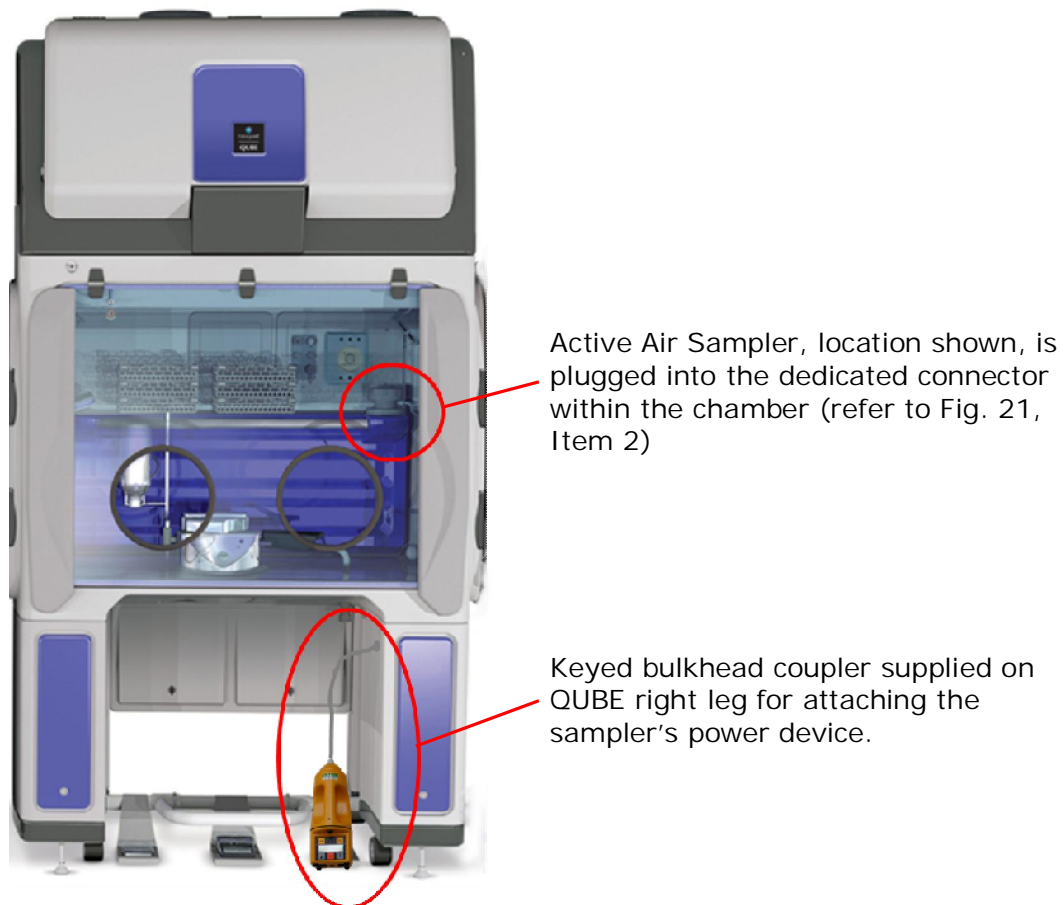
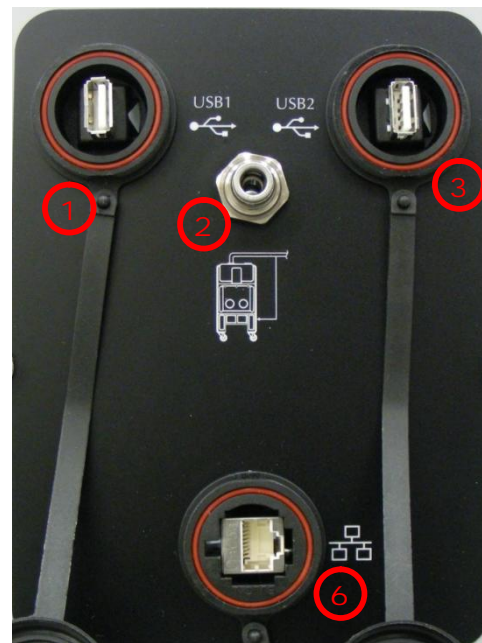

Figure 12: Connecting Active Air Sampler
Figure 20: Electrical connection plate (QEXT)
- An integral connector inside the chamber can be used to connect to an Active Air Sampler (see Fig. 21, Item 2), and a coupler is provided (see Fig. 12) on the QUBE’s right leg to enable connection to the air sampler’s power device. The Active Air Sampler and power device and settle plates are not supplied by Bioquell.
An integral connector inside the chamber can be used to connect to an Active Air Sampler (see Fig. 20, Item 2), and a coupler is provided (see Fig. 12) on the QUBE's right leg to enable connection to the air sampler's power device. The Active Air Sampler and power device and settle plates are not supplied by Bioquell.